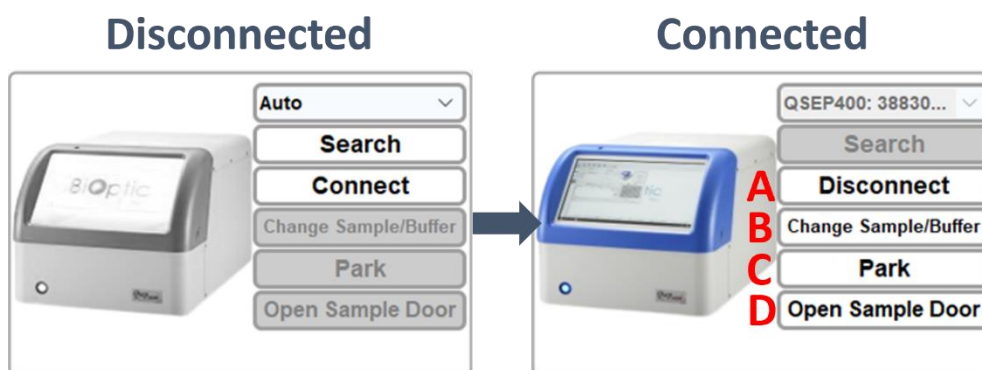

Figure 10 Instrument Connection
To establish the connection between *Qsep₄₀₀* Bio-Fragment Analyzer and the external PC, click on the **Connect** button on the Control Panel (Figure 10 A). Once the button text changes to **Disconnect** and the displayed image of *Qsep₄₀₀* Bio-Fragment Analyzer turns into color, the connection is established.
1. Click on **Change Sample/Buffer** to move the tray holder to the door (Figure 10 B) and place the Buffer and Marker on the tray holder. Press the marker tubes tightly down into the wells.
3. Click on **Park** to move the tray holder to the park position (Figure 10 C).